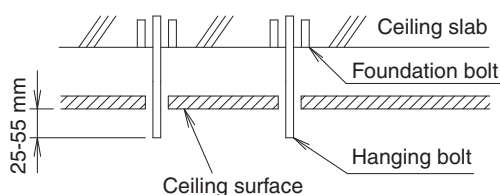

Fig. 9
- Adjust the length of the hanging bolt from the ceiling in advance. **(Refer to Fig. 9)**
- Parts shown Fig. 9 will be all field supply.